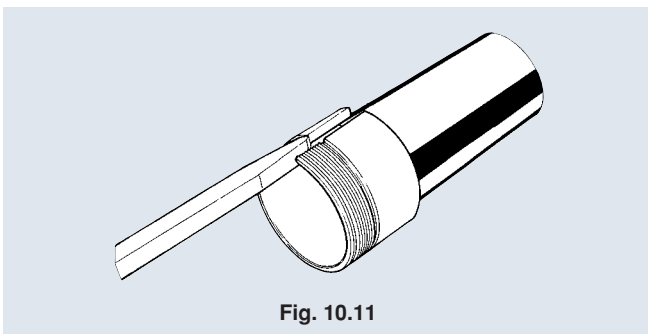

Fig. 10.11
- (2) Mount the adapter to a correct position considering the dimension B_1 , B_2 or B_3 in the bearing table. When fitting the adapter sleeve onto the shaft, open the slit with a flat-blade screwdriver for easy fitting. (See **Fig. 10.11**.)